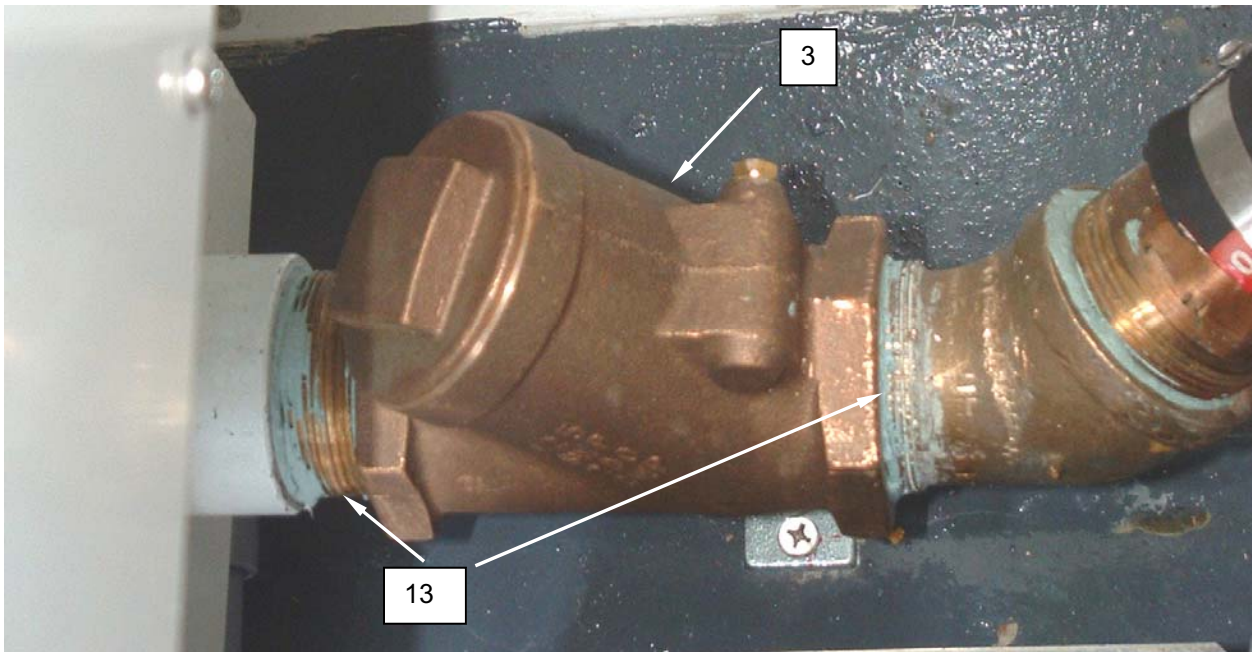

Figure 8. Replace Brass Check Valves.
4. Make a note of the direction of flow and position of the check valve (**Figure 8, Item 3**).
5. Use a pipe wrench to steady the attached pipe and remove the check valve (**Figure 8, Item 3**).
6. Use a pipe wrench to steady the check valve (**Figure 8, Item 3**) and remove any remaining attached pipe or fittings (**Figure 8, Item 13**) as an assembly.
7. Apply pipe sealing compound to the check valve (**Figure 8, Item 3**) or attached male pipe fittings (**Figure 8, Item 13**).
9. Install the check valve (**Figure 8, Item 3**), ensuring that the correct direction of flow and valve position has been retained.
10. Use a pipe wrench to steady the replacement check valve (**Figure 8, Item 3**).
11. Install any remaining attached pipe and fittings (**Figure 8, Item 13**) as an assembly onto the replacement check valve (**Figure 8, Item 3**).